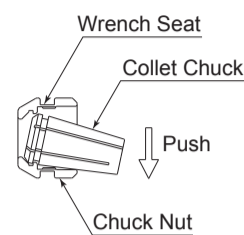

Fig. 5
- The collet chuck and chuck nut are secured by a groove in the collet chuck and a flange in the chuck nut. To remove the collet chuck hold the chuck nut in one hand and push diagonally down on the collet chuck. The collet chuck should be released. (Fig. 5)
- Install the new collet chuck in the chuck nut by positioning the collet chuck in the chuck nut and pressing down on a flat surface. (Fig. 5)